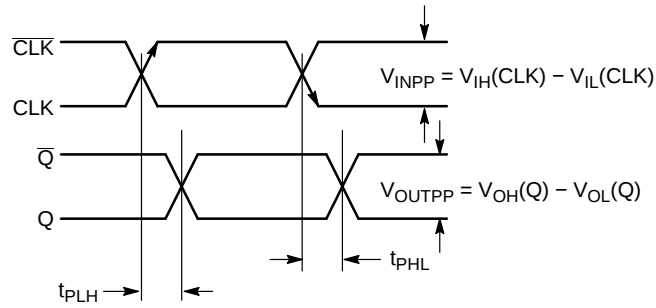

Figure 18. AC Reference Measurement
26. See Figure 18. t_{SKEW} = |t_{PLH} - t_{PHL}| for a nominal 50% differential clock input waveform.